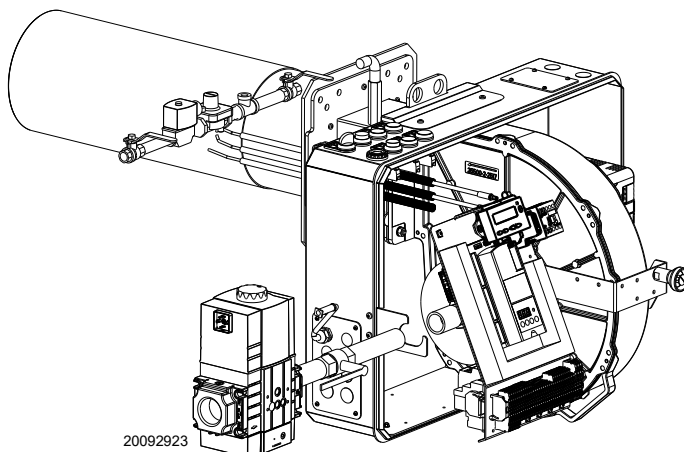

Fig. 17
- secure the gas train unit to the mixer (Fig. 17).
- **WARNING** Fix the pilot unit to the manifold (Fig. 17);